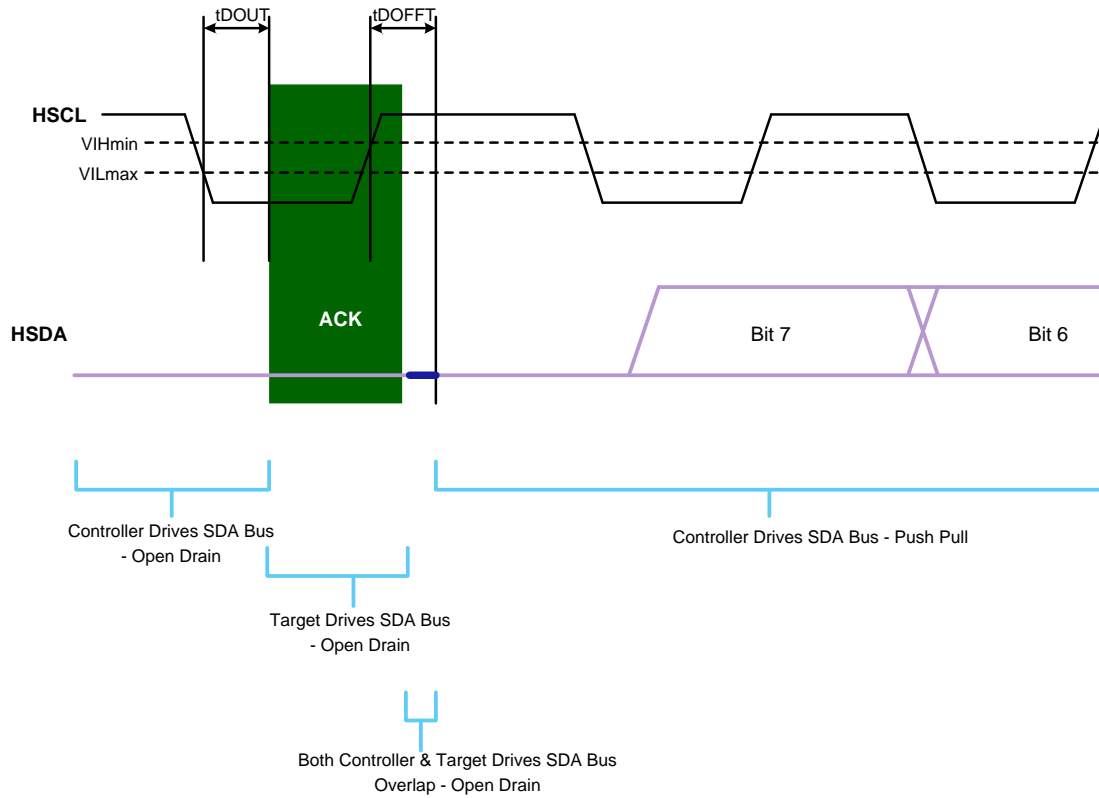

Figure 8. Target Open Drain to Host Push Pull Hand Off Operation
- See Figure 8 to see how the transition occurs from Target Open Drain (ACK) to Host Push Pull Operation (1st bit of Addr, bit [7]).
1. See Figure 8 to see how the transition occurs from Target Open Drain (ACK) to Host Push Pull Operation (1st bit of Addr, bit [7]).
1. See Figure 8 to see how the transition occurs from Target Open Drain (ACK) to Host Push Pull Operation (1st bit of Data).